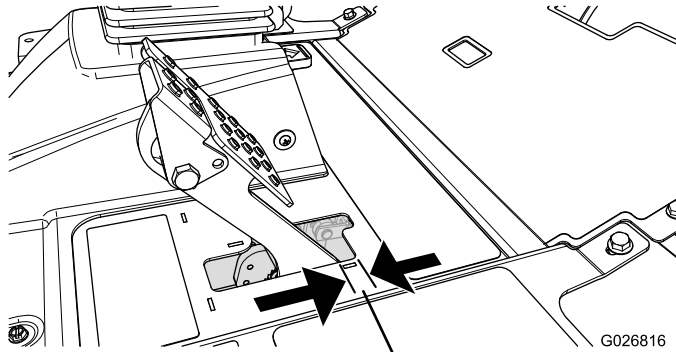

Figure 71
Adjust the brakes when there is more than 25 cm (1 inch) of free travel (Figure 71) of the brake pedal, or when more holding force is required. Free travel is the distance that the brake pedal moves before you feel braking resistance.
2. Tighten the rear nut to move the cable backward until brake pedals have 6.3 to 12.7 mm (1/4 to 1/2 inch) of free travel (Figure 71), before the wheel locks up.